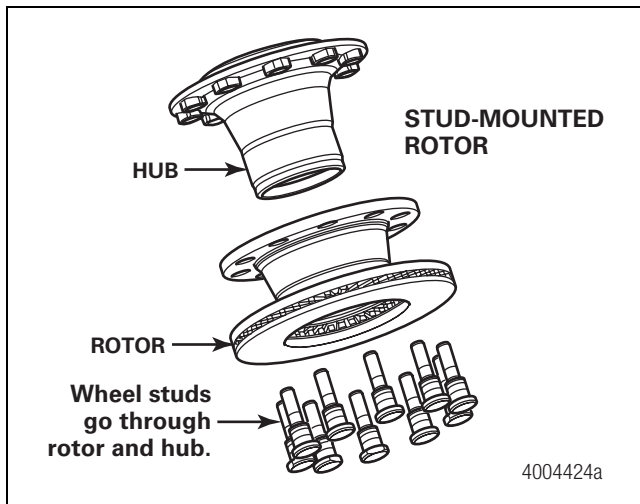

Figure 15
- **For stud-mounted rotors:** Use a brass or synthetic mallet to remove the hub-to-rotor studs. Figure 15. Be careful not to damage the studs during this process.
- **For stud-mounted rotors:** Press or pull the wheel studs through the rotor into the hub. Figure 15.